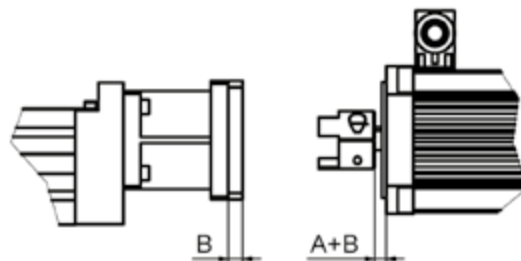

Figure 3.14 __ Mounting dimension
1. Insert the coupling hub ② on the drive or gearbox shaft. The dimension A (Figure 3.14) from Table 6.24 in Chapter 6.2.4.2 and dimension B when using an optional intermediate flange ⑤, should be considered.
2. Tighten the clamping screw ③ with the required tightening torque according to Chapter 3.5 Table 3.3.
3. Insert elastomeric gear rim ④. For drives with feather key and shaft diameter 19 and 24 mm the elastomeric gear rim is drilled through. A shorter feather key for exchange is delivered as well.
4. Insert the drive with the coupling hub ② in the coupling hub from the Linear Axis and screw it with the coupling cone ①.